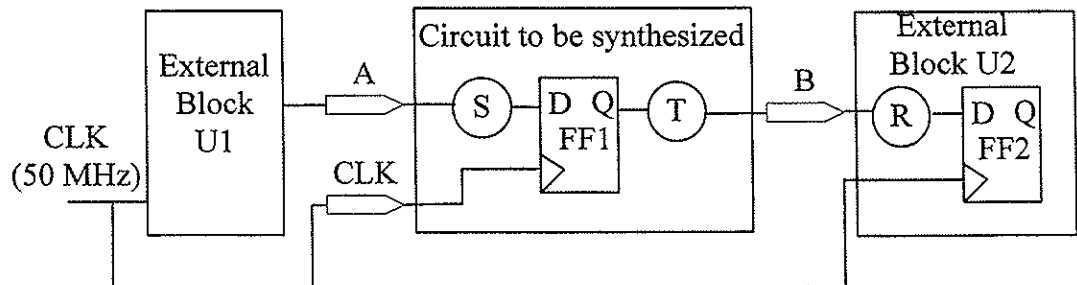

Figure Q4
- Q.4 (c) Given the following conditions for the circuit shown in Figure Q4.